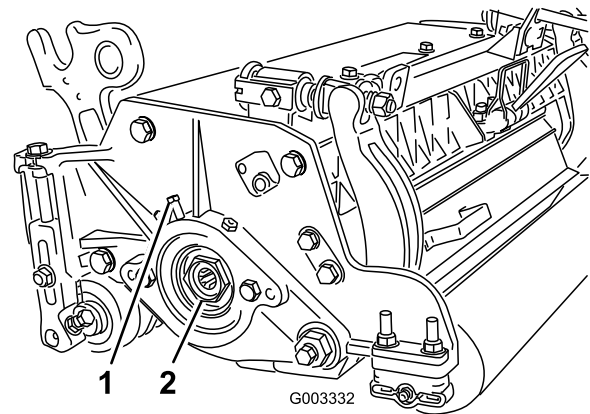

Figure 29
- A. Loosen external set screw securing bearing adjusting nut to bearing housing located on the left side of the cutting unit (Figure 29).